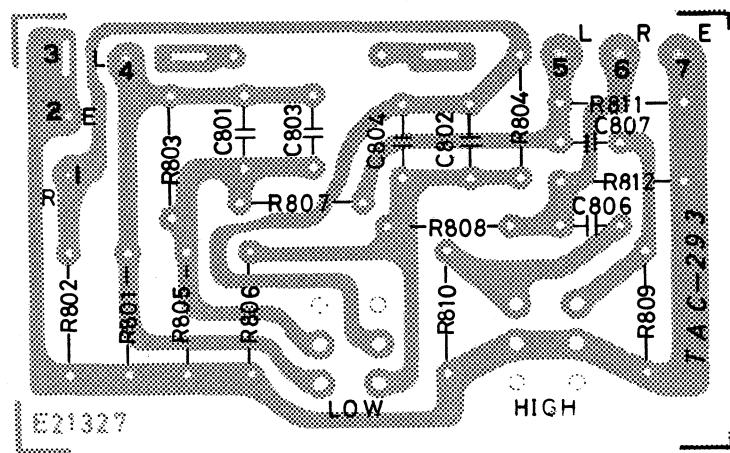

Fig. 13
**TXX-2 (TAC-293, TAC-294) FILTER CIRCUIT BOARD AND VOLUME CIRCUIT BOARD (Fig. 13,14)**